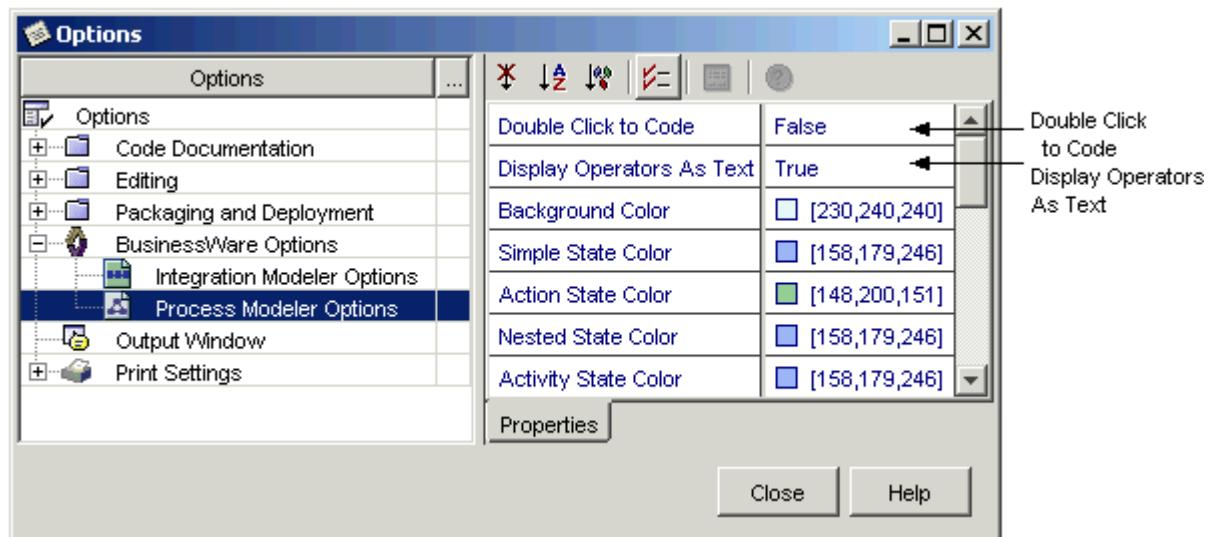

Figure 14-1 Setting Double-Click to Display Source Code Editor
2. In the Options window (Figure 14-1), expand the BusinessWare Options and select Process Modeler Options.
By default, the Condition Builder displays operators as text. If you prefer symbols, select **Tools > Options > BusinessWare Options > Process Modeler Options** and set Display Operators As Text to false. The Options dialog box is shown in Figure 14-1.